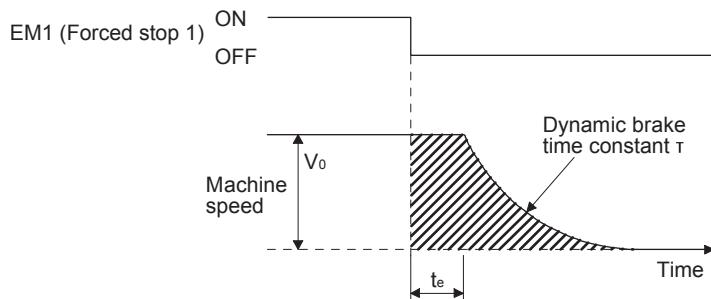

Fig. 15.3 Dynamic brake operation diagram
Fig. 15.3 shows the pattern in which the servo motor comes to a stop when the dynamic brake is operated. Use equation 15.1 to calculate an approximate coasting distance to a stop. The dynamic brake time constant τ varies with the direct drive motor and machine operation speeds. (Refer to (1)(b) of this section.)